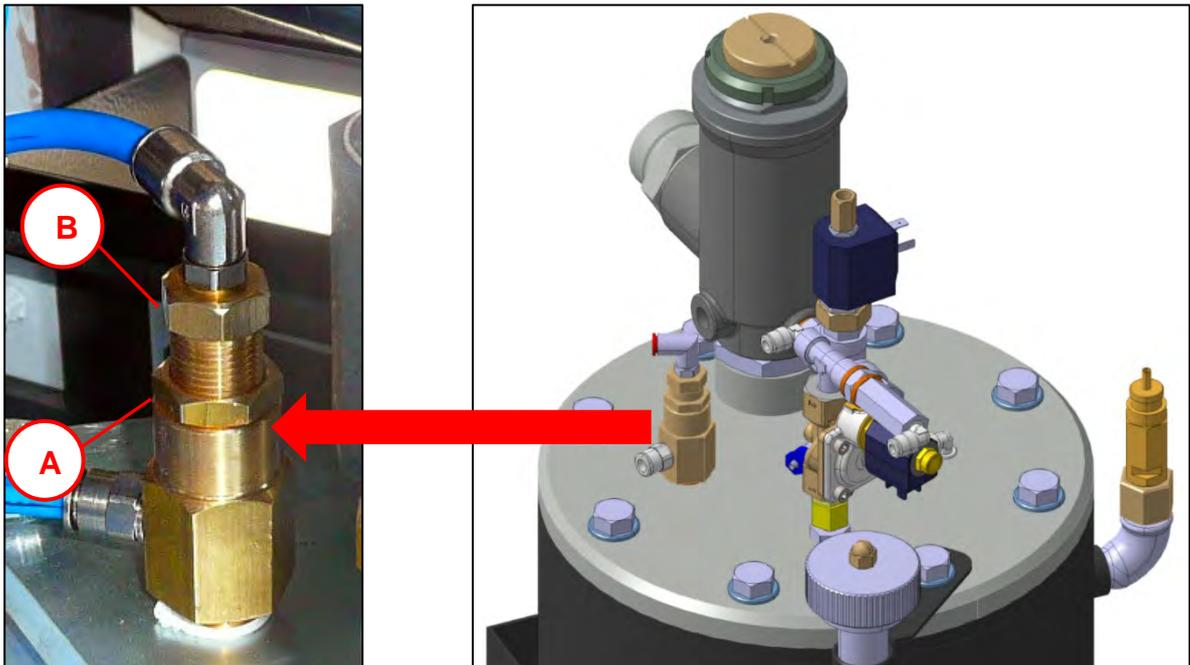

Figure 11.2-1 Adjusting maximum pressure valve
3. Close all faucets (Letter A in Figure 11.2-1);
5. Unscrew with wrench 22 mm in, the nut (Letter A in Figure 11.2-1); Air filter area:
6. If you want to increase the maximum pressure must tighten with 19 mm wrench, nut (Letter B in Figure 11.2-1);
7. If you want to reduce the regime min unscrew, with a 19 mm wrench, nut (Letter B in Figure 11.2-1);
8. Once the adjustment screw, with a 22 mm wrench, nut (Letter A in Figure 11.2-1);